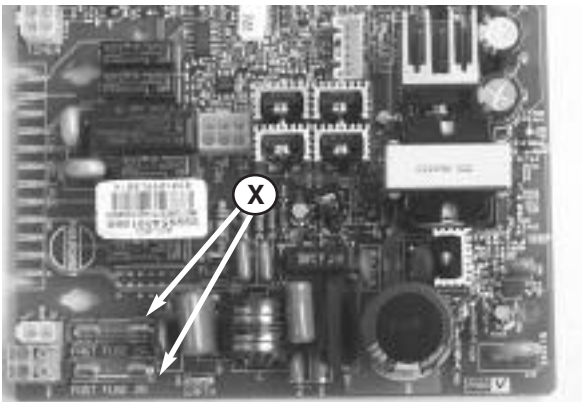

Fig. 105
2. Remove the fuses "**X**" (see *Fig. 105*)